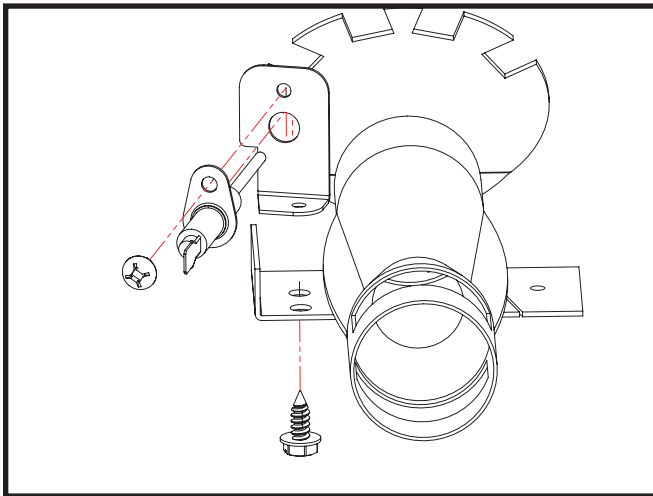

Figure 4. Flame Sensor Assembly
10. Attach the flame sensor bracket and flame sensor per Figure 4.